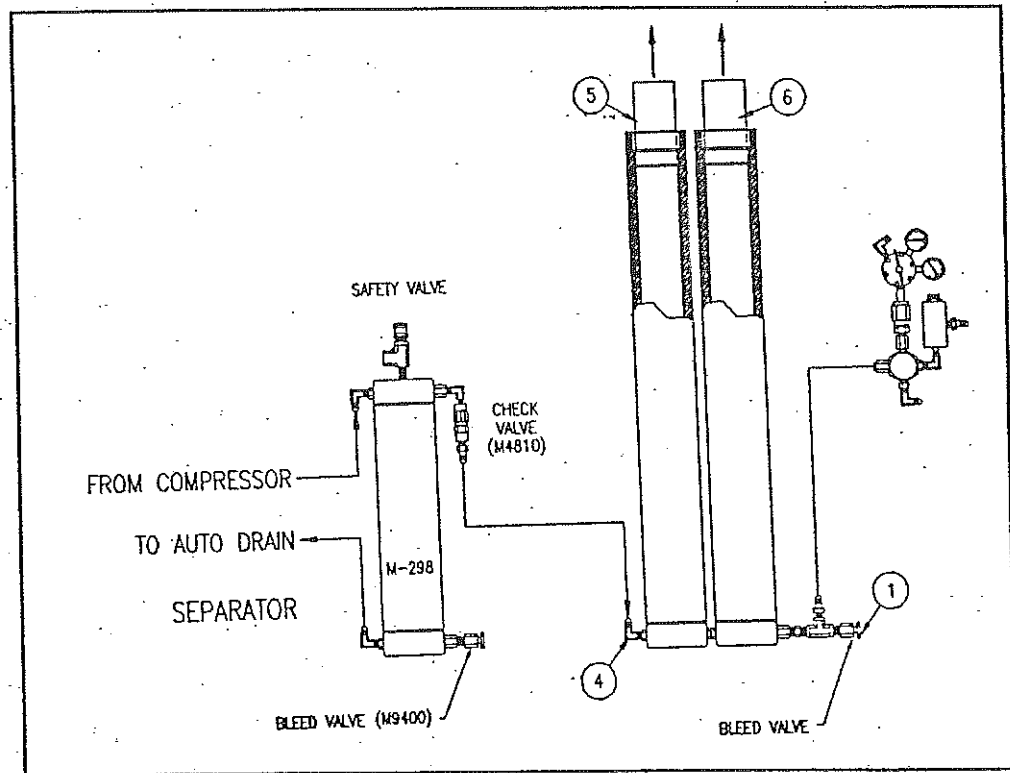

FIGURE 5-6 FILTER REMOVAL
6. Remove all old filters (5) & (6) from all chambers (see Figure 5-6).